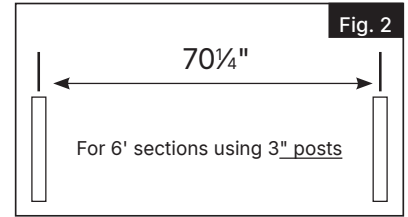

Fig. 2
- 6' Sections using 3" posts: Measure 70¼" from the center of an end point and mark with stake (Fig. 2).